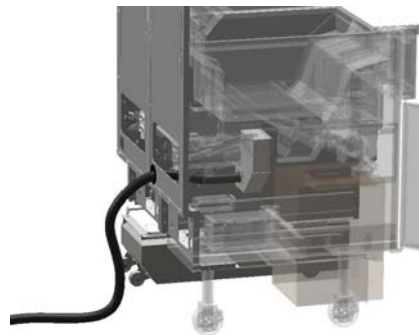

Figure 1.5.2
2. Insert power cable/conduit through hole in fryer cabinet, Figure 1.5.2. Use care when routing power cable/conduit through the fryer to not interfere with actuator movement.